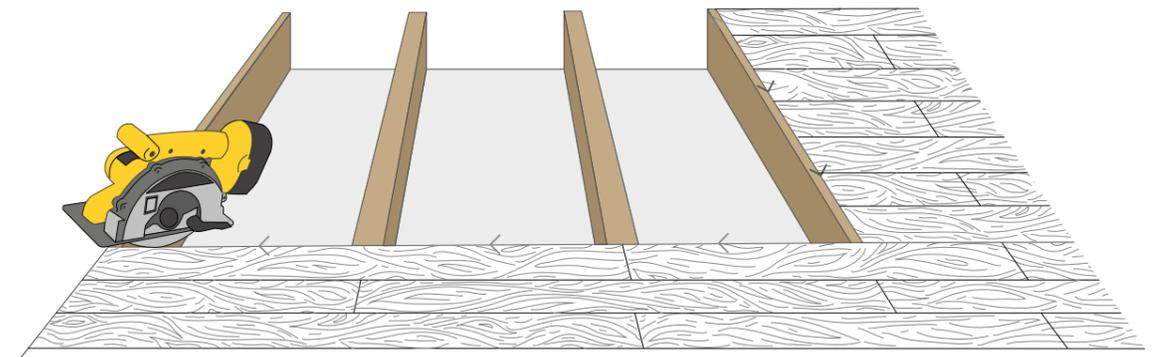

Fig. 7
1. Set your circular saw to the depth of your floorboards - most standard floorboards are 18mm (Fig.7).